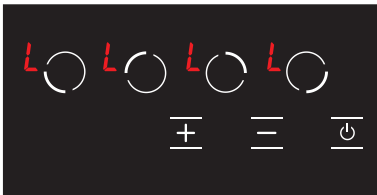

Figure 20
1. The **L** icon is displayed on all displays when the stove is on and the child lock is active. (see Fig. 20) The **L** and **H** icons are displayed alternatively if any hob is hot. You may turn the stove on or off with the **0** key only.